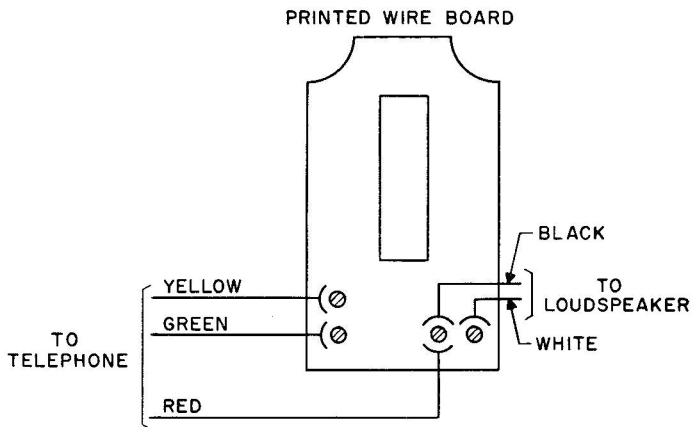

Figure 14. Loudspeaker printed wire board connections.
2. If the microphone section is functioning properly but the loud-speaker section is not, the trouble is probably in the loudspeaker cabinet printed wire board. Disconnect the five wires leading to the printed wire board and try a replacement board, (see figure 14 for connections).